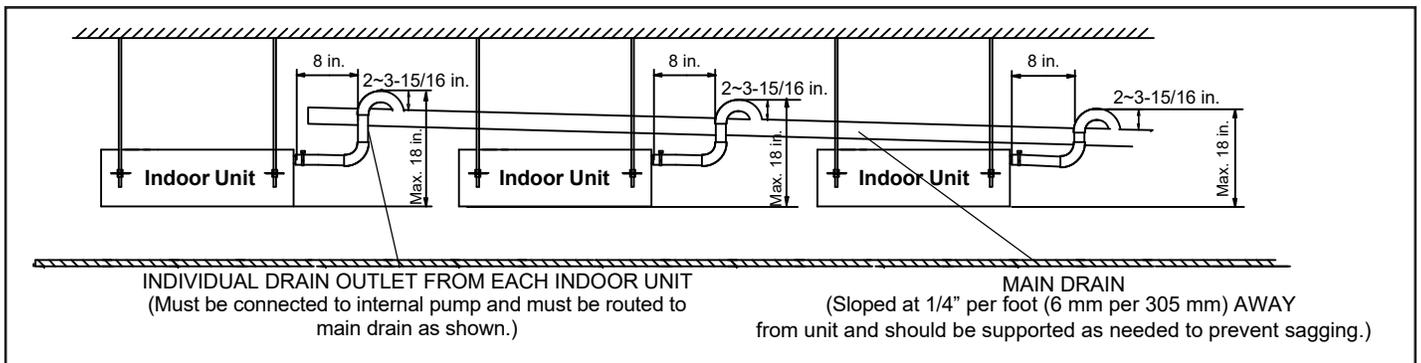

Figure 13. Condensate Drain with Lift Pump Multiple Indoor Units
6. See Figure 13 for applications including multiple units using the internal lift pump to provide lift into a single, correctly sized main drain. In this case, ensure that the main drain line is properly sloped, no less than 1/4 inch per foot (6 mm per 305 mm), and that each individual drain is connected to the main drain exactly as shown.